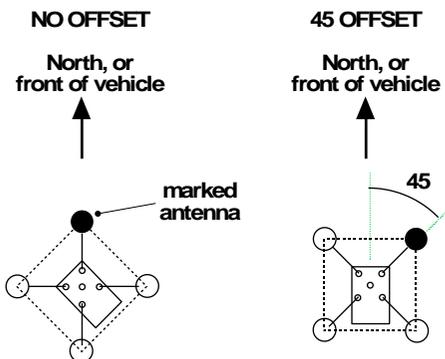

Figure 5.3 Bearing Offset
5.8.3 Adding an Offset (Figure 5.3)
A bearing of 0° (360°) should indicate a signal coming from true north in a fixed installation, and from 'dead ahead' in a mobile installation. If it is not possible to align an array with true north, an offset can be applied to allow for the misalignment, for example Figure 5.3 shows an offset of 45°. A typical example would be where the 'square' of the antenna array on a vehicle is mounted so that opposite sides of the square are parallel to the side of the vehicle roof, with the 'marked' antenna (connected to the connector on the head unit with the red dot) at the front right hand corner. The array is therefore rotated clockwise by 45°, and a signal from straight ahead will show a bearing of 360° - 45°, i.e. 315°. An offset of +45° must then be added to give the correct bearing of 0° (360°).